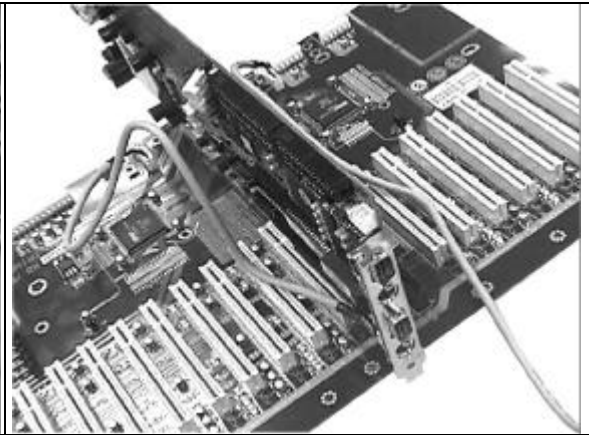

Fig. 6
1. If you use a standard PC/AT keyboard, please apply a 5-pin keyboard control cable between your SBC and backplane over the 5-pin shrouded header KB1 (KB2). Also, please connect another similar 5-pin keyboard cable on chassis onto KB2 (KB1). This will then enable the chassis keyboard DIN connector (**Fig. 6**).